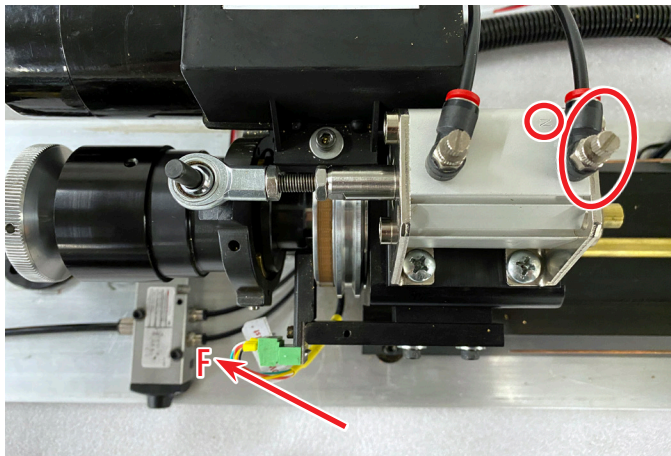

FIGURE 36
D. Connect the second 5/32" air line from the outgoing control valve marked “F” in the picture to the flow control with the (N) stamp on the air cylinder (see Figure 36).